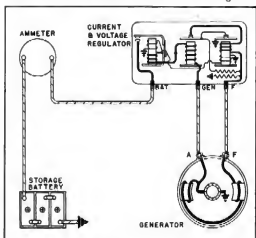

Fig. 18—Generator and Regulator Circuit Diagram
The positive wire from the generator is connected to the generator (GEN) terminal of the regulator; and the field terminal of the generator is connected to the field (F) terminal of the regulator. The wire from the battery through the ammeter to the battery (BAT) terminal of the regulator. These connections are shown in Fig. 18.
the voltage winding of the circuit breaker to magnetize its core sufficiently to attract the circuit breaker armature and close the points, establishing a circuit from the generator to the battery as shown in Fig. 18.
You will note by referring to Fig. 18 that all the current for lights, accessories and charging the battery passes through the series winding of the current regulator. You will also note that any change in the current output of the generator makes the same change in the current value passing through the series winding of the regulator. Such being the case, the magnetic strength of the current regulator series winding varies directly as the current output of the generator.